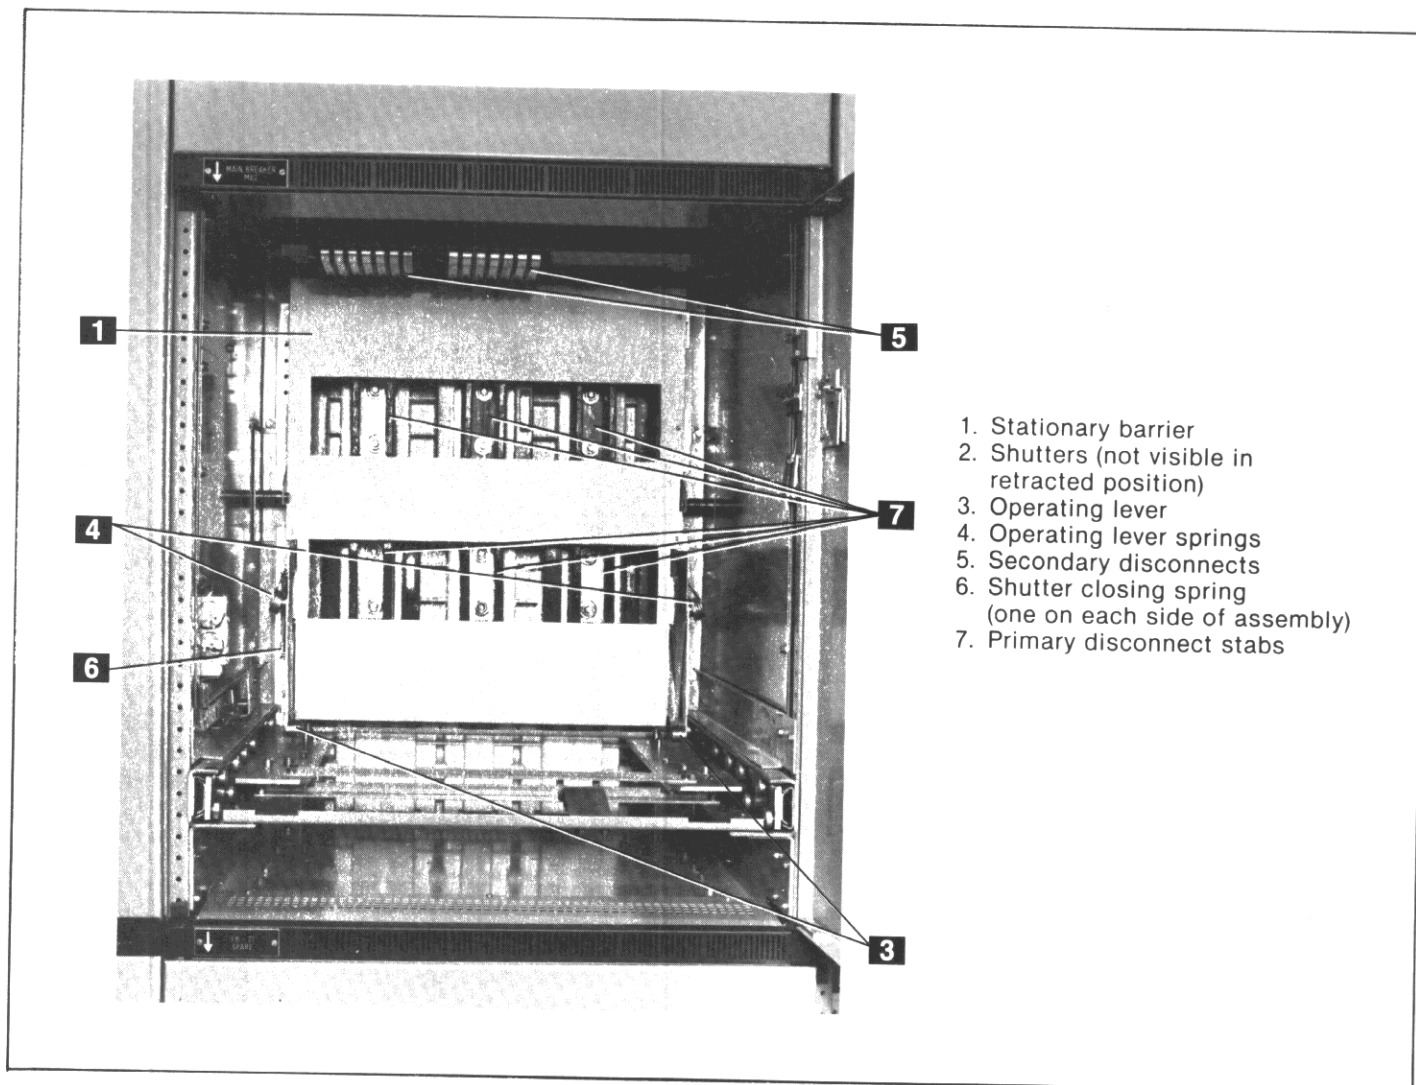

Fig. 3-9. AKD-8 primary disconnect shutter assembly (30-inch wide compartment). Shutters manually retracted — not normal operation.
Figure 3-9 also shows the shutter assembly with the shutters manually retracted to show the location of the primary disconnect stabs (7) behind the shutter assembly. Also shown are the shutter closing springs (6) which cause the closure of the shutters as the breaker is withdrawn from the connected position. These springs are automatically charged as the breaker is racked into the connected position.